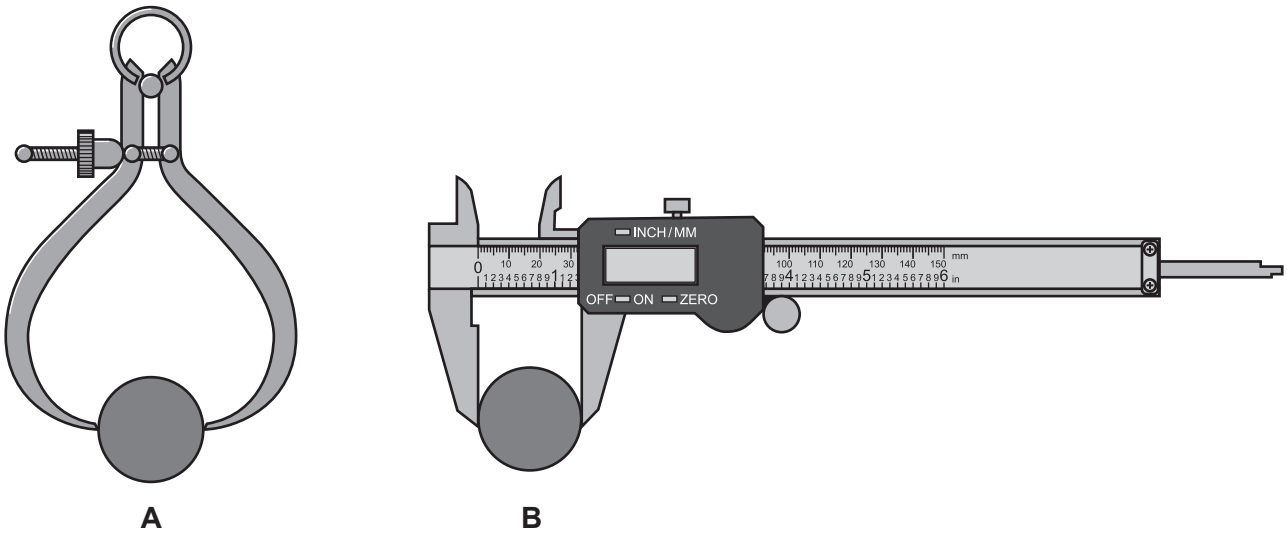

Fig. 4.1
- 4 Fig. 4.1 shows two different types of caliper, **A** and **B**, measuring the diameters of round bars.